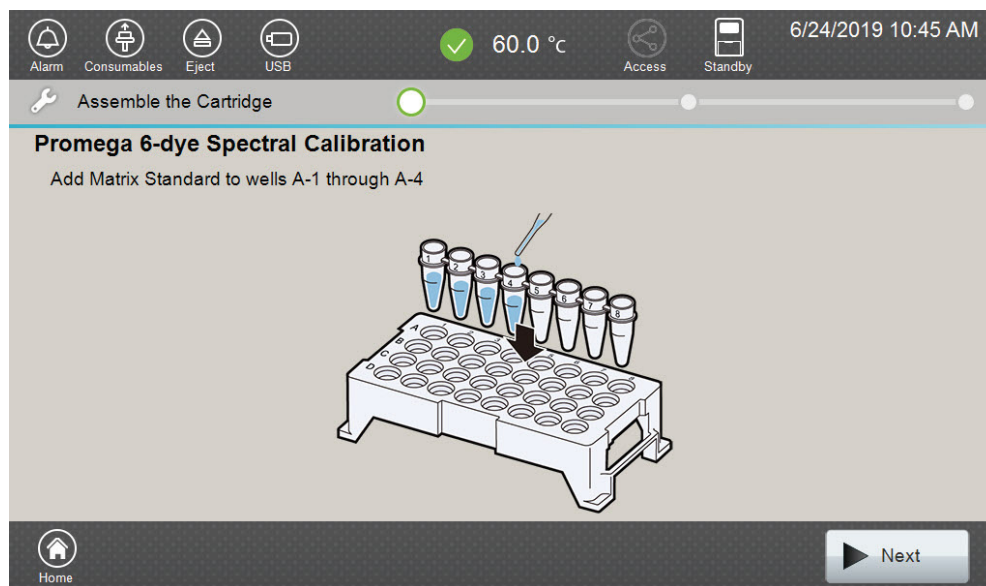

Figure 7. 'Assemble the Cartridge' screen.
4. Use the scroll arrows on the right-hand side of the 'Dye Set List' screen (Figure 6) to find the correct Dye Set/Application Type/Polymer combination from the displayed list. To perform a spectral calibration using the VersaPlex™ 6C Matrix Standard on Polymer4, select **Promega 6-dye** with "Fragment" and "Polymer4" as application and polymer types, respectively, then select **Calibration**. The 'Assemble the Cartridge' screen will open (Figure 7).
5. Select **Next** on the 'Assemble the Cartridge' screen (Figure 7). A message window will open indicating that the autosampler is moving and telling the user to not open the door. In addition, the status indicator flashes green while the autosampler is moving. After autosampler movement is complete, the message window closes and the status indicator returns to a steady green.